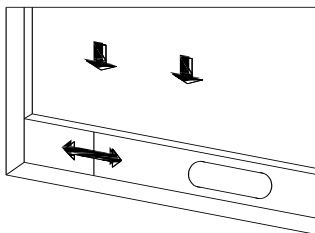
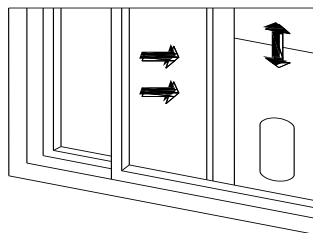

Figure 2
Figure 3
- 1) Half open the window and mount the window sealing plate assembly to the window (as shown in Fig.2 and Fig.3). Components can be placed in horizontal and vertical direction.